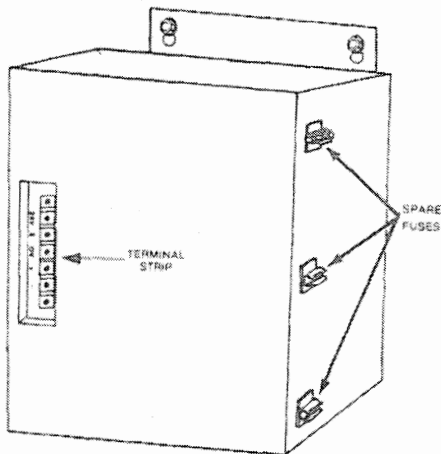

FIGURE 1
01.01 All models of the External Power Supply Assembly (EPSA) are equipped with a built-in wall mounting bracket, as shown in Figure 1, to allow the EPSA to be mounted on a wall or other flat, vertical surface.